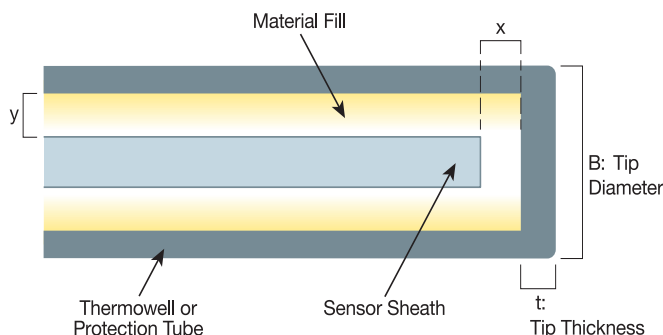

Figure 3-94: Factors Affecting Response Time
- Sensor sheath OD to thermowell bore ID gap. (“y” dimension in Figure 3-94).
- Select a spring-loaded sensor to ensure tight contact of the sensor to the bottom of the well. (“x” = 0 in Figure 3-94).
- Specify a thermally conductive media to fill the void between the sensor and the wall of the thermowell. (“y” dimension in Figure 3-94)